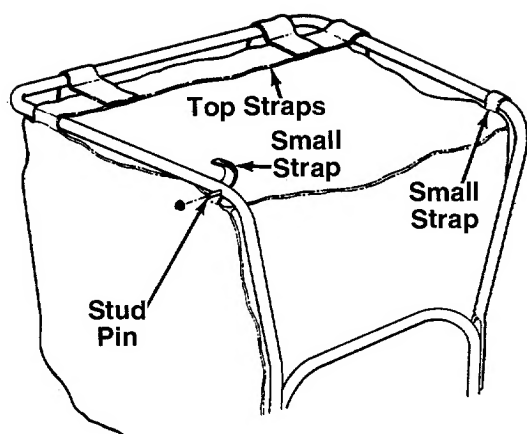

FIGURE 9.
2. Attach the bag by slipping the top straps on the bag over upper handle. Hook the two small straps over the stud pins on handle. See figure 9.